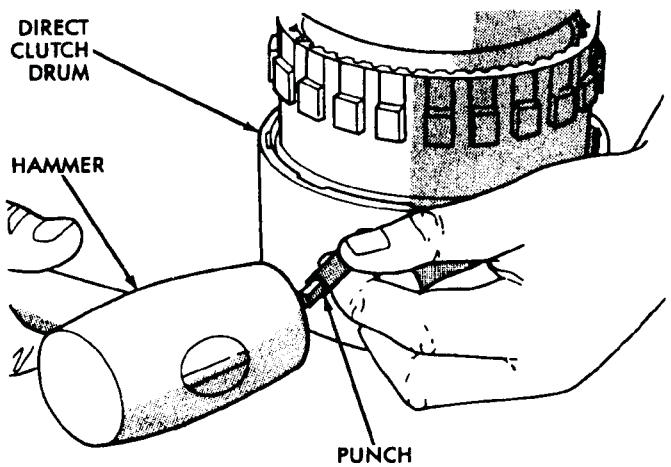

Fig. 29 Marking Direct Clutch Drum And Annulus Gear For Assembly Alignment
- (19) Mark position of annulus gear and direct clutch drum for assembly alignment reference (Fig. 29). Use small center punch or scriber to make alignment marks.